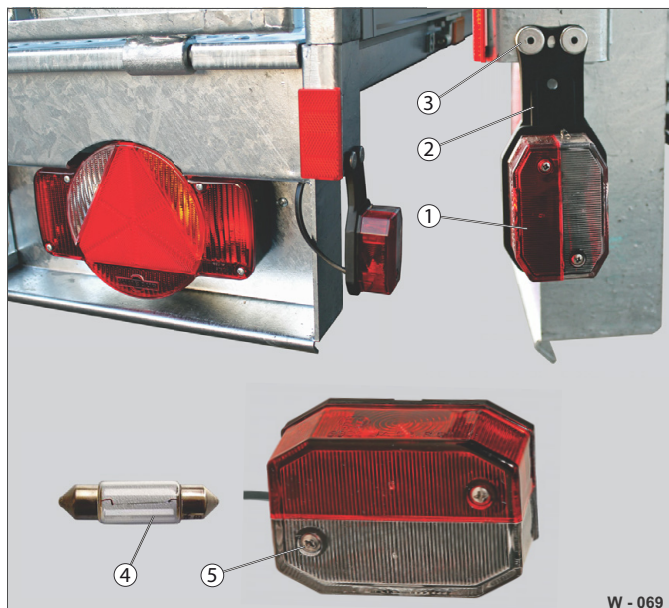

Fig. 71 Clearance light / bulb at side on rear
- Undo the screw connection (Fig. 71 /5) and remove the cover glass (Fig. 71 /1).
- Replace the tubular bulb (Fig. 71 /4).
- Attach the cover glass on the mounting plate (Fig. 71 /2) with the screw connection - do not tighten too much, pay attention to alignment.